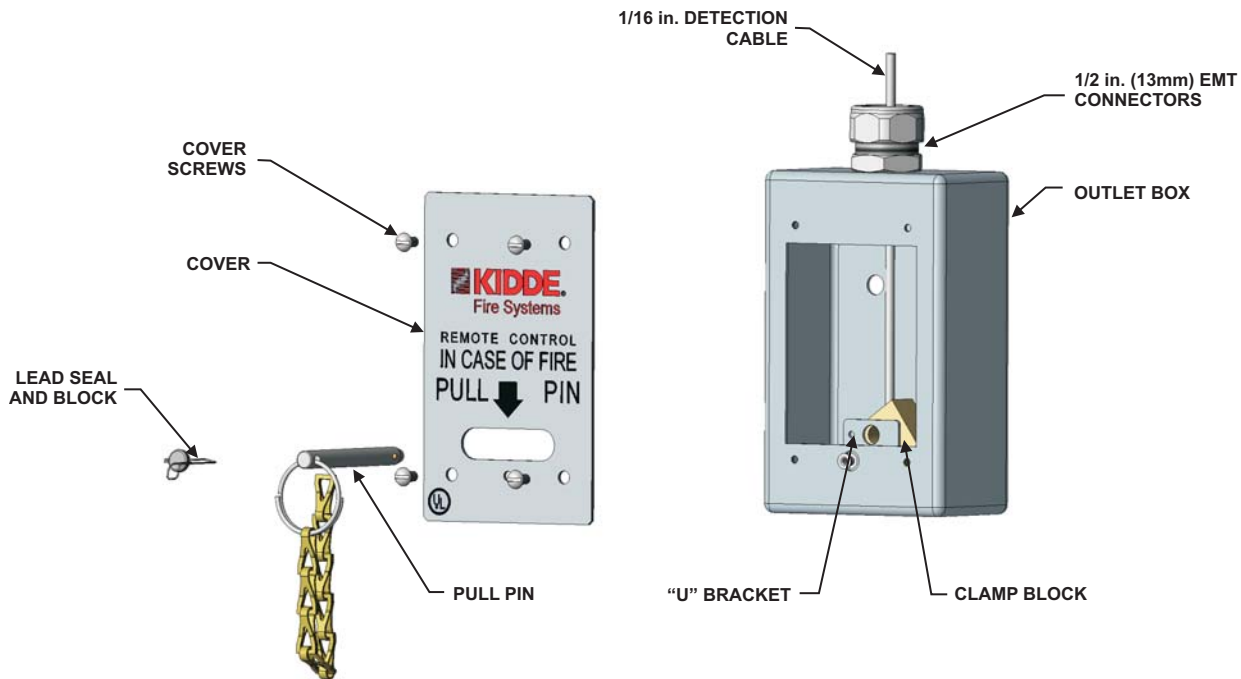

Figure 4-55. End-of-Line Remote Manual Control, P/N 87-120052-001
5. Before replacing the cover plate, a lead seal and wire (or equivalent) must be fastened through the ring of the pull pin and through the front hole of the "U" bracket (Figure 4-55).
3. Run the cable down through the vertical conduit to an end-of-line Surface Mounted Manual Control Box. Insert cable through conduit connector on one side of the roll pin (Figure 4-55).